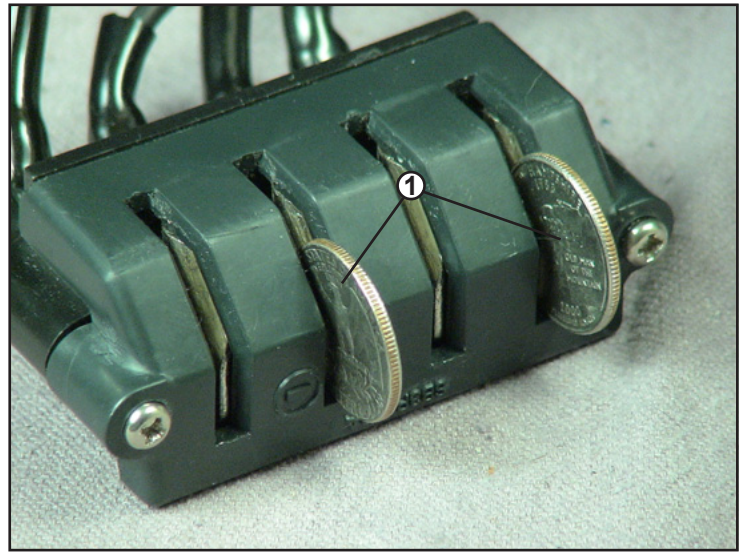

Figure 16. Front Intermediate Motor Harness (Disassembled for clarity)
- 17) Take a quarter and slide into the contacts marked “+” and “-” on the front intermediate motor harness connector. **(See #1 in figure 16.)** Does each contact hold the quarter firmly in place?
- 16) Inspect the connection between the front intermediate motor harness (11a) and the rear intermediate motor harness (10a.) Make sure the contacts are not corroded. Take a quarter and slide into the contacts on 11a **not** marked “+” and “-” on the connector. **(Similar to #1 in figure 16.)** Does each contact hold the quarter firmly in place?